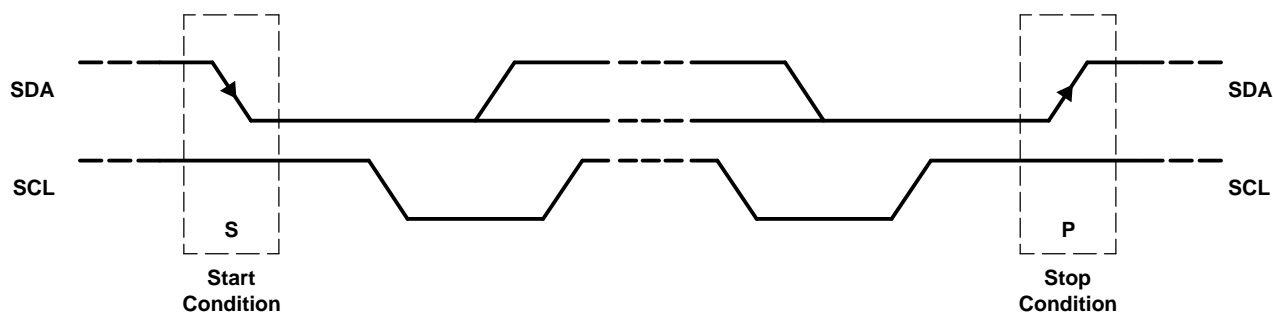

Figure 29. START and STOP Conditions
- The *master* initiates data transfer by generating a *start condition*. The *start condition* is when a high-to-low transition occurs on the SDA line while SCL is high, as shown in Figure 29. All I2C-compatible devices should recognize a *start condition*.
- To signal the end of the data transfer, the master generates a *stop condition* by pulling the SDA line from low to high while the SCL line is high (see Figure 29). This releases the bus and stops the communication link with the addressed slave. All I2C compatible devices must recognize the stop condition. Upon the receipt of a *stop condition*, all devices know that the bus is released, and they wait for a *start condition* followed by a matching address.